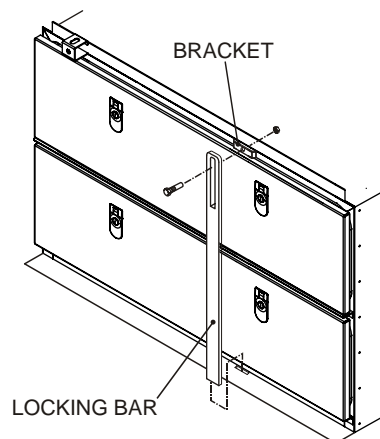

Figure 14 Missile Stowage Padlock Bar
- 38. Remove Padlock Bar (Figure 14):